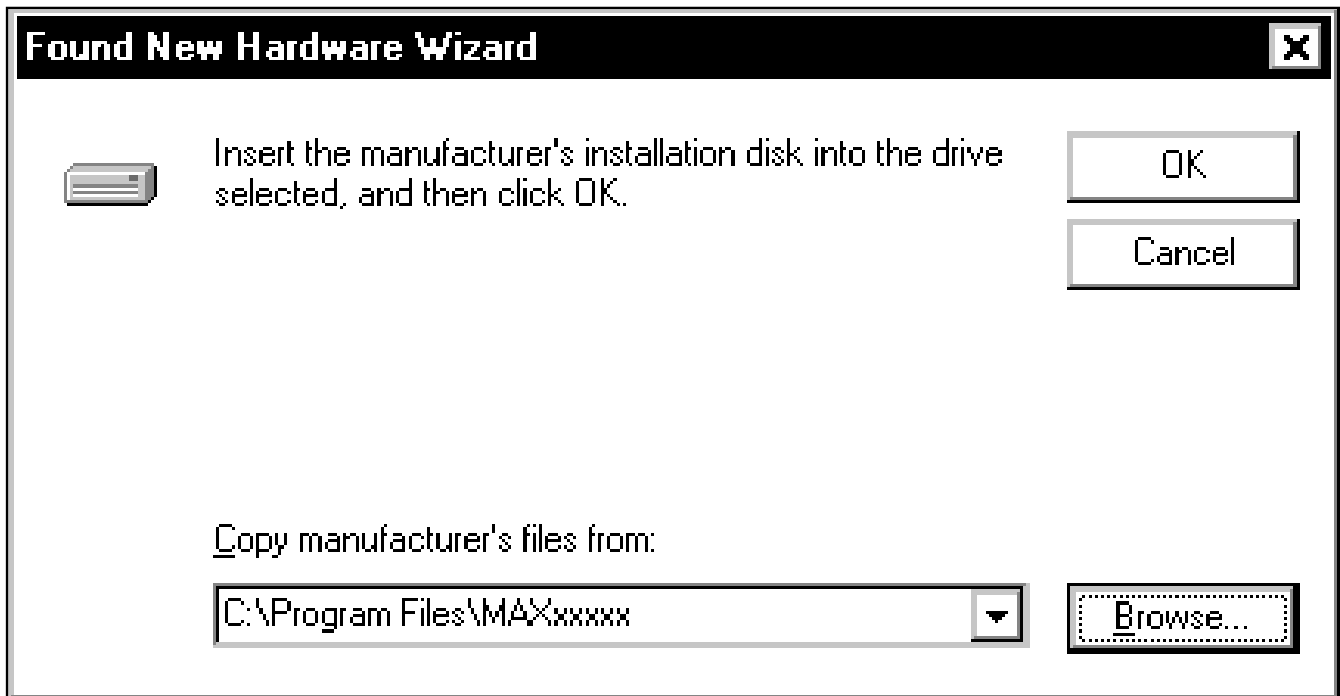

Figure 13. Windows 2000: **Found New Hardware Wizard | Path** Window
- 5) The next window is the **Found New Hardware Wizard | Path** window (Figure 13). Press the **Browse** button and choose the path **C:\Program Files\MAXxxxxx**. Press the **OK** button when finished.